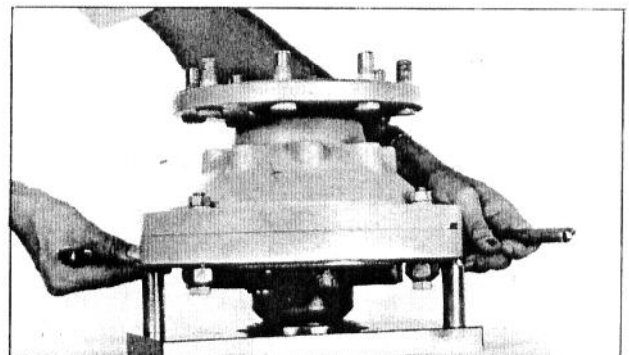

Fig. 107 - Measuring Gap Between Ring Gear and Gauge Posts
5. Fit the carrier assembly into the bearing and tool. Rotate the assembly back and forth to seat the bearings. Attempt to center the spherical bearing at right angles to the gauge posts. Refer to Fig. 107.